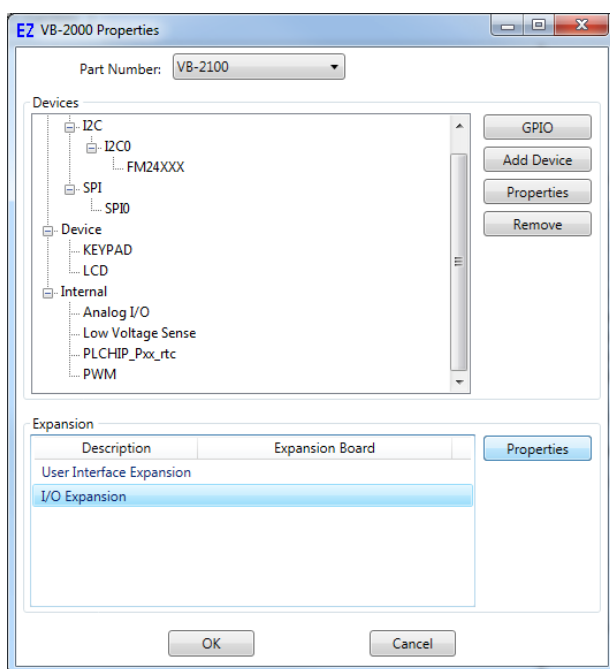

Figure 2-48- VB-2000 Properties - I/O Expansion
3. Highlight the **I/O Expansion** in the list and click the **PROPERTIES** button on the right side of the Expansion pane in the VB-2000 Properties Window. Refer to Figure 2-48. The I/O Expansion Properties Window will open.